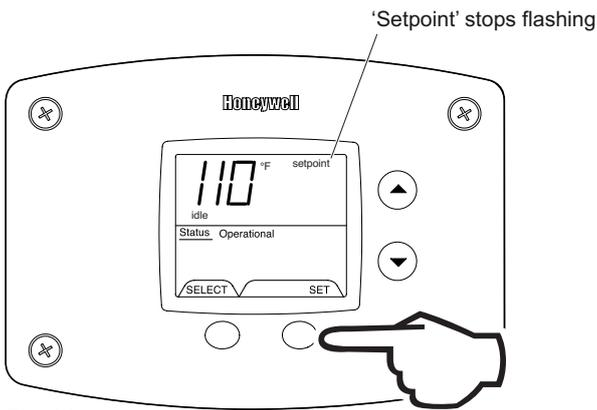

Fig. 64
- When the desired setpoint is reached on the water heater display, press the 'Set' button to confirm the new setpoint. 'Setpoint' stops flashing in the water heater display (Fig. 64).